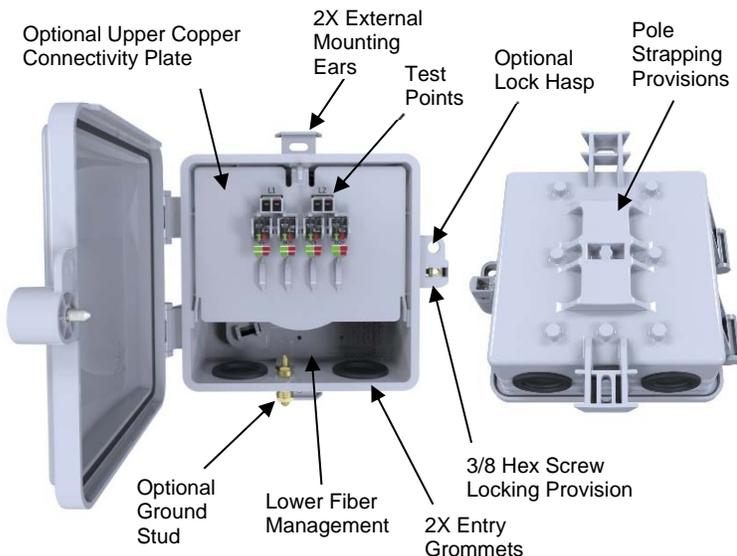

Figure 1
2. In addition to external mounting ears mentioned in Step 1, there are optional provisions for pole strapping provided on the rear of the enclosure (See Figure 1).
1. This unit allows for two pairs of copper connectivity management, utilizing an optional Copper Connectivity Plate (See Figure 1). Tool-less IDC connections are provided to electrically connect two wire pairs, and each pair has easily accessible test points.